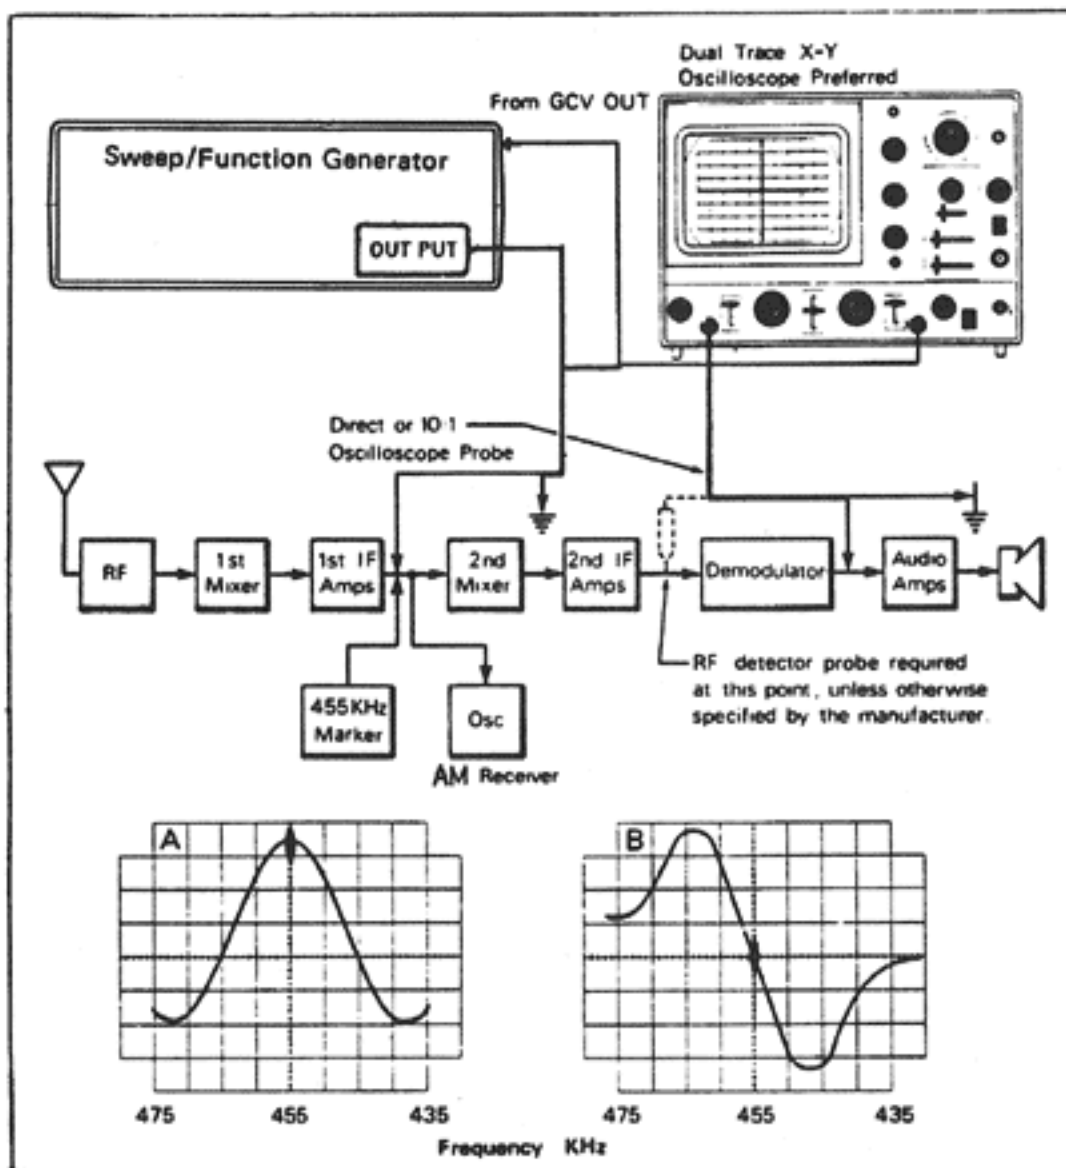

Fig. 10 Alignment of AM communications receiver IF's and discriminator.
- d. In speaker testing, an obvious increase of voltage will occur at some low frequency. This is the resonance frequency of the speaker system (Fig. 10).
- Connect a variable resistor in series with impedance network as shown in fig. 10.
- b. When signal at the output of the 455kHz IF section is displayed, a response curve similar to Fig. 10 A should be obtained. The marker "pip" should be in the center of the response curve.
- c. When the output of the discriminator is displayed, a response curve similar to Fig. 10 B should be obtained.